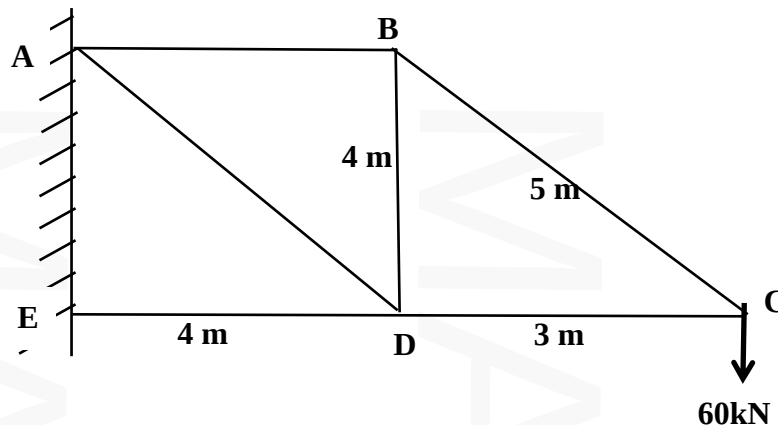

Fig.3
- 13 a) Determine the vertical deflection at point C in the truss shown in fig.3. The cross sectional area for members AD, DE is 1500 mm^2 and that for other members is 1000 mm^2 . Modulus of elasticity $E = 200 \text{ kN/mm}^2$. 14